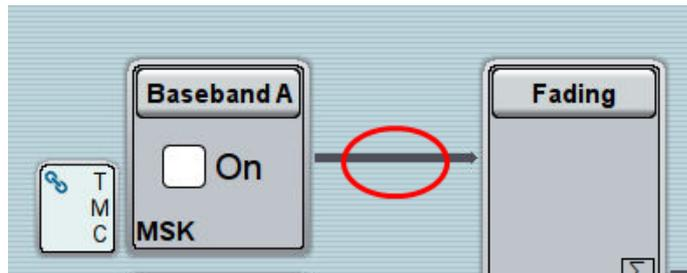

Fig. 3-108: Click here to enter baseband offsets
17. Set individual relative power levels by a click on the line between the baseband and the AWGN block. In the window set the level of (Fig. 3-108 and Fig. 3-109)